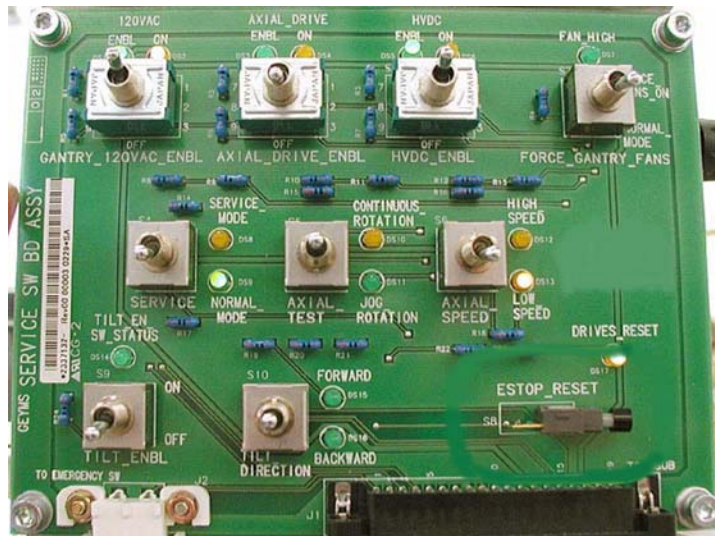

Figure A-17 Service Switch Panel
- 4.) Verify the three (3) power switches have been turned **OFF** (see Figure A-17).